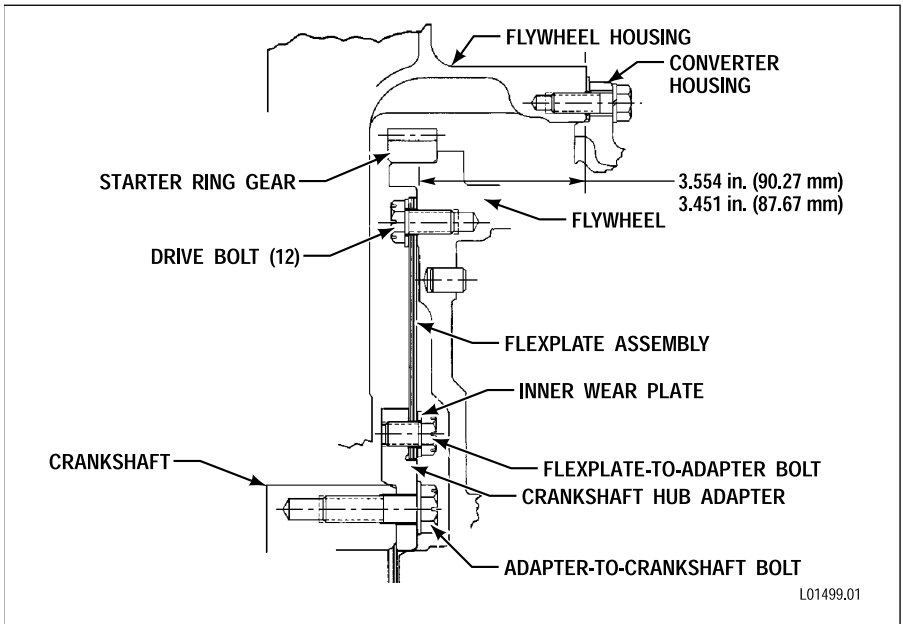

Figure 4-1. Typical Method Of Coupling Transmission To Engine
- Remove all bolts, nuts, washers, spacers, and supports that attach the transmission to the vehicle and to the engine (reference Figure 4-1).
You must ensure that a new transmission installation can be adapted to the vehicle's engine. The explained measurements in this section ensure correct transmission-to-engine adaptation. Refer to Figures 4-1, 4-2, and 4-3.